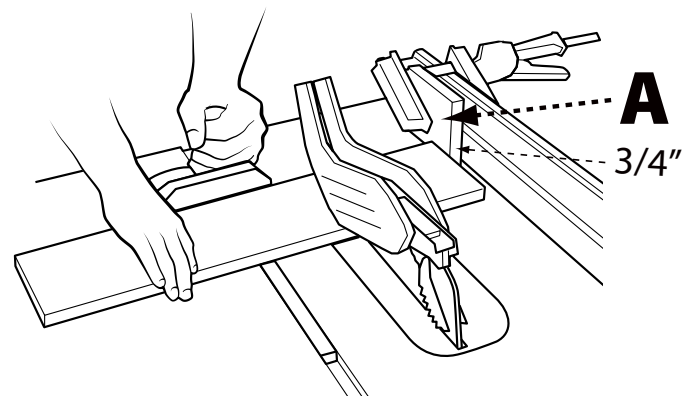

FIGURE 36
When crosscutting a number of pieces to the same length, you can clamp a block of wood (A) (See Figure 36) to the fence and use it as a cut-off gauge. The block (A) must be at least 3/4-inch (19 mm) thick to prevent the cut off piece from binding between the blade and the fence. Once the cut-off length is determined, lock the fence and use the miter gauge to feed the workpiece into the blade.